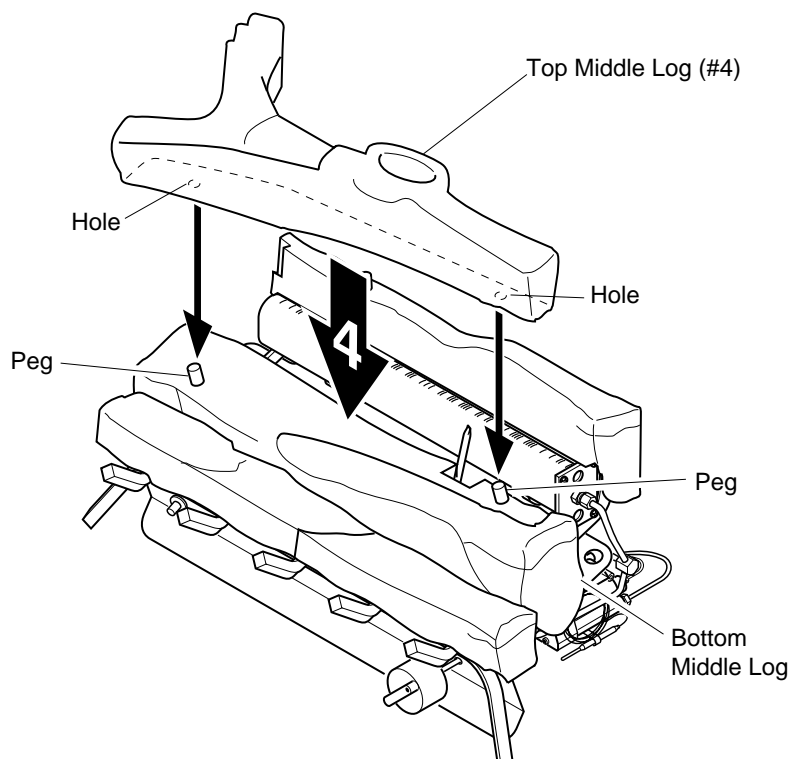

Figure 19 - Installing Top Log (#4)
- Place the top middle log (#4) on the bottom middle log (#2). Make sure the pegs of the bottom middle log fit securely in the holes of the top middle log (see Figure 19).